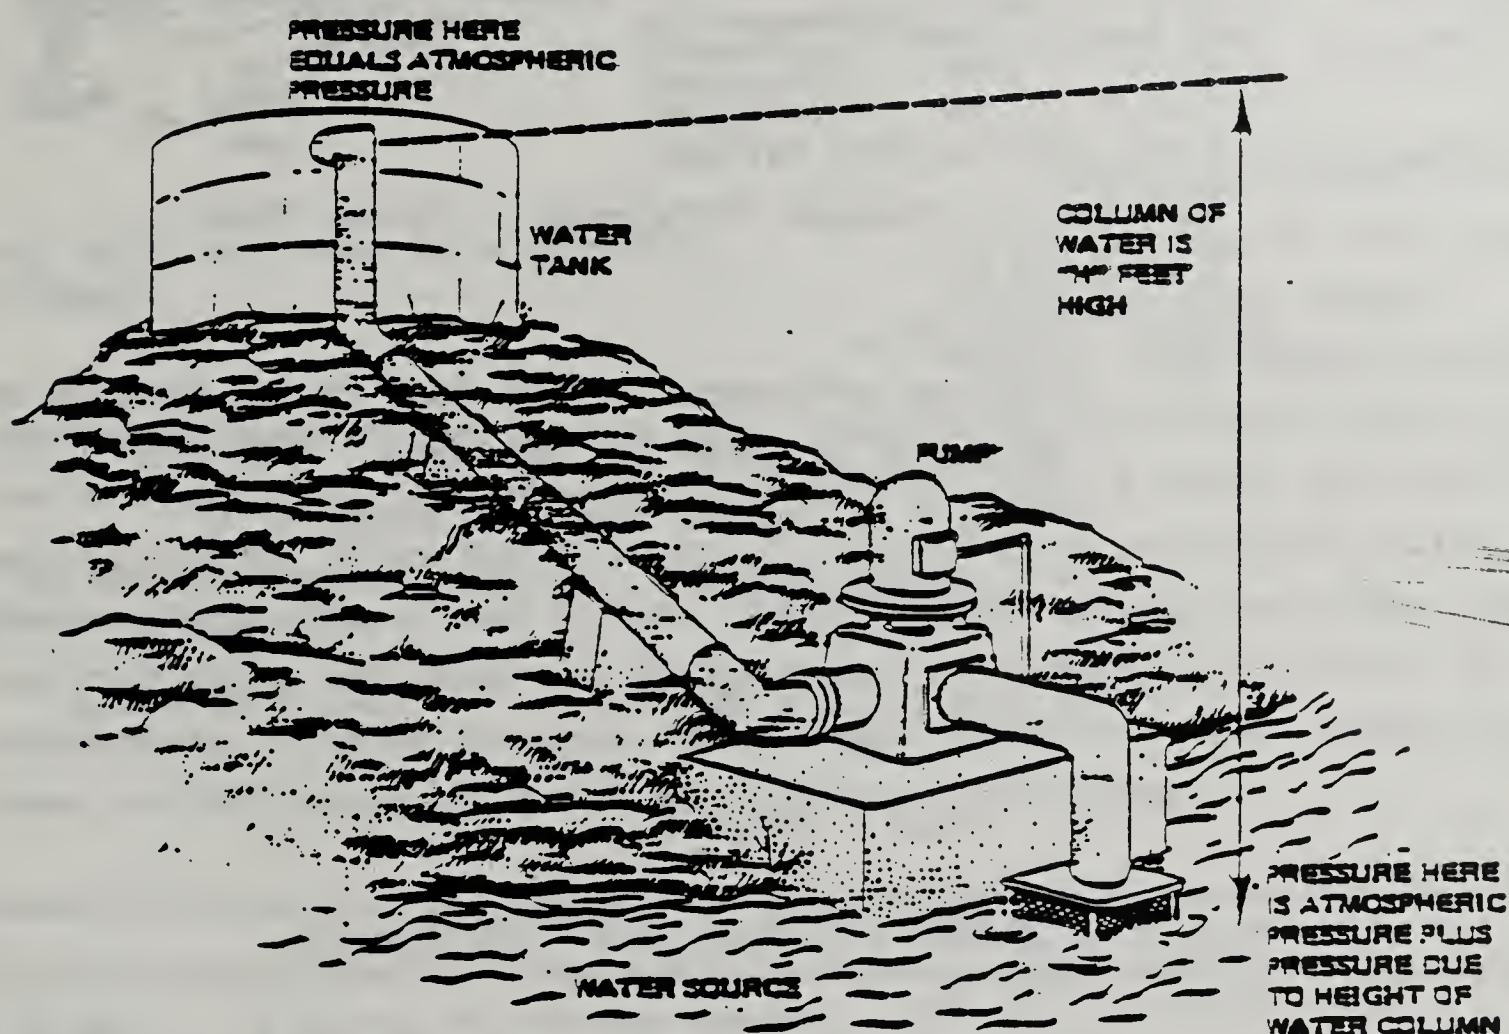

Fig. 2-12 Pump does fluid work in lifting water.
For example, consider the work done by a pump that lifts water from a lake or well to a tank through a vertical distance of "H" feet. (See Figure 2-12.) This type of work is calculated best by using the first equation,  $W = (\Delta P) \times V$ . The pump moves a certain volume of water (V) through a pressure difference ( $\Delta P$ ). The pressure at the top of the discharge pipe is equal to atmospheric pressure.